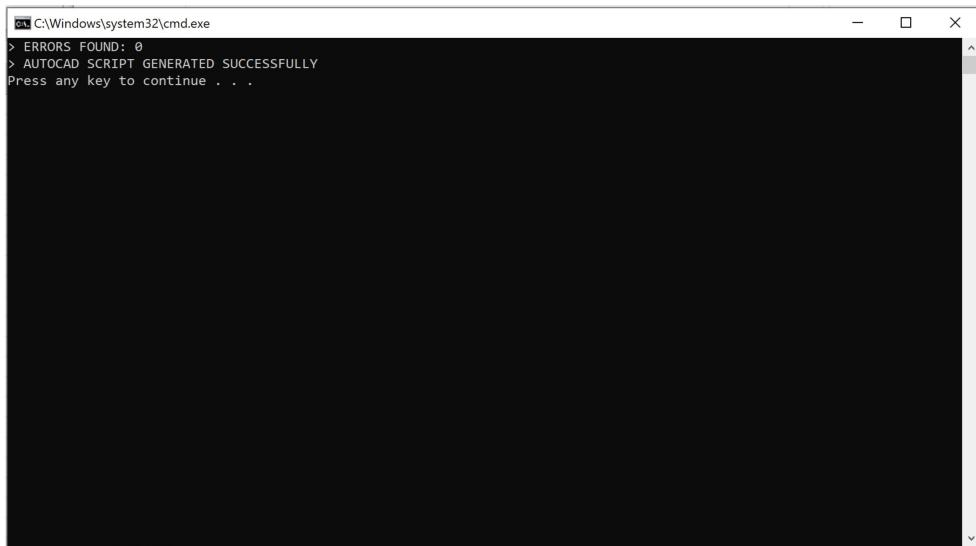

Figure 13: Successful AutoCAD Script Creation
3. Once the program has finished running a command terminal will pop (Figure 13) up indicating the program has finished running and if there have been any errors found with the TPOCs while generating the script.